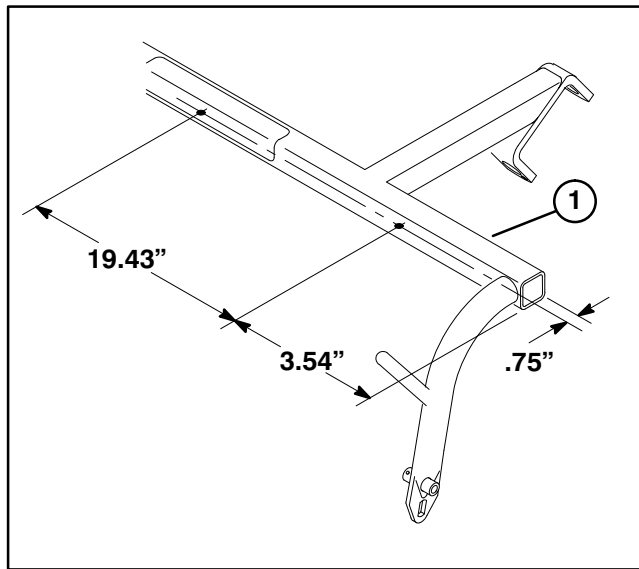

Figure 1
MOUNT PULL ARM BUMPERS (Fig. 1–2)
1. Using dimensions shown in figure 1, locate, mark and drill (2) .221" dia. holes in underside of each pull frame cross tube.